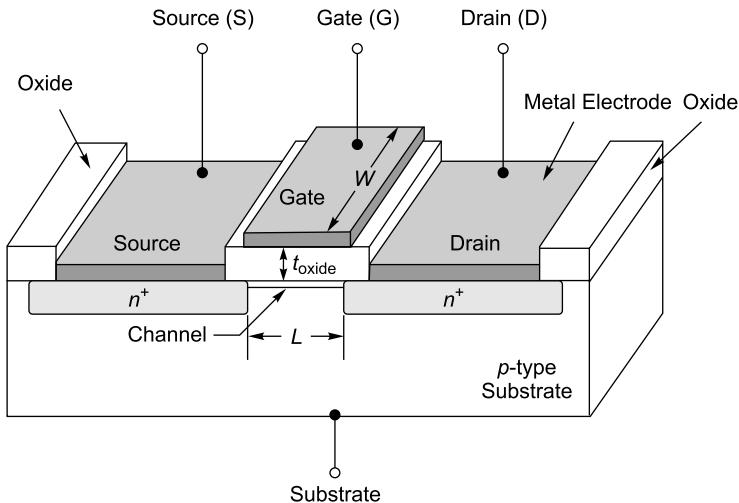

Fig. 1.35 Schematic diagram of an n-channel enhancement type MOSFET
Figure 1.35 shows the simplified structure of an *n*-channel enhancement-type MOSFET which consists of a lightly doped *p*-type substrate and two *n*⁺ regions. Actually, two highly doped *n*⁺ regions are diffused within the *p*-type substrate. These *n*⁺ type regions are separated by about 1 μm to 20 μm and act as source (S) and drain (D) terminal, respectively. A thin layer of silicon dioxide, SiO₂ is placed over the surface of the structure. Then holes are cut into the SiO₂ layer and metal contacts are inserted into holes to make the source and drain terminals as shown in Fig. 1.35. The metal contact over the channel region is used as gate terminal. The gate, oxide and *p*-type substrate behave as a MOS capacitor. In Fig. 1.35, *L* is the channel length and its typical value is about 1 μm to 20 μm . The thickness of oxide *t*_{oxide} is in the order of 400 angstroms. Figure 1.36 shows the detail cross section of an *n*-channel MOSFET showing field oxide and gate oxide.